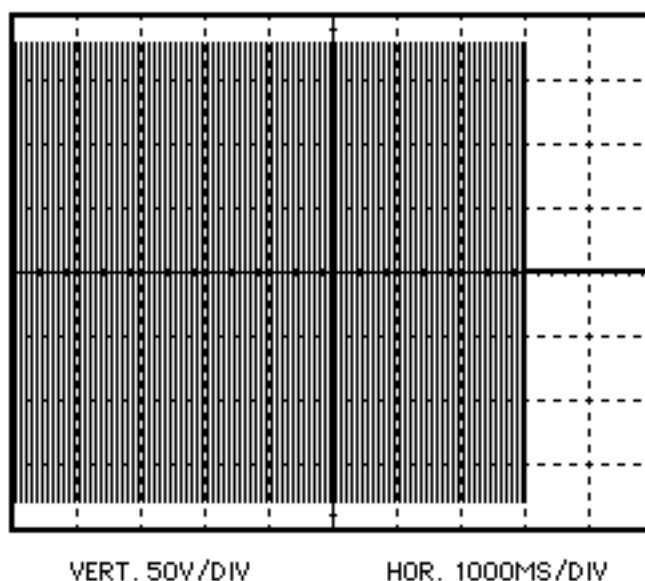

fig. 3.6
B) Connect oscilloscope across the dummy load. Set vertical deflection to 50 v/div and horizontal deflection to 1.0 sec/div. Set proper trigger. Set PERCENT ENERGY dial to 100% and push the TREAT button. The duration of the stimulus should be 8 seconds as in fig. 3.6.